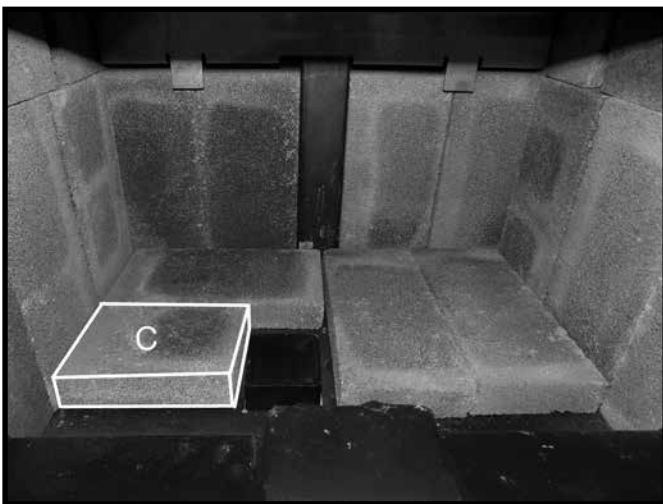

Figure 23. Fourth floor brick in place.
- Place the "C" firebrick so that it sits beside the ash dump, against the left-hand side wall and the "A" firebrick located directly behind the ash dump Figure 23. on page 15